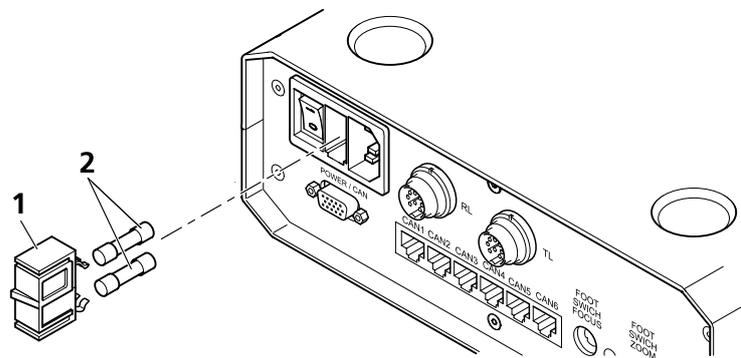

Fig. 41 Replacing the fuse on the EMS-2
- Pull out the fuse insert (Fig. 41/1) at the rear side of the EMS-2. To do this, depress the snap-in mechanisms on the top and on the bottom of the fuse insert.
- Replace the defective fuse (Fig. 41/2) (fuse type: T 2.5 A/E, 250V, 5x20mm).